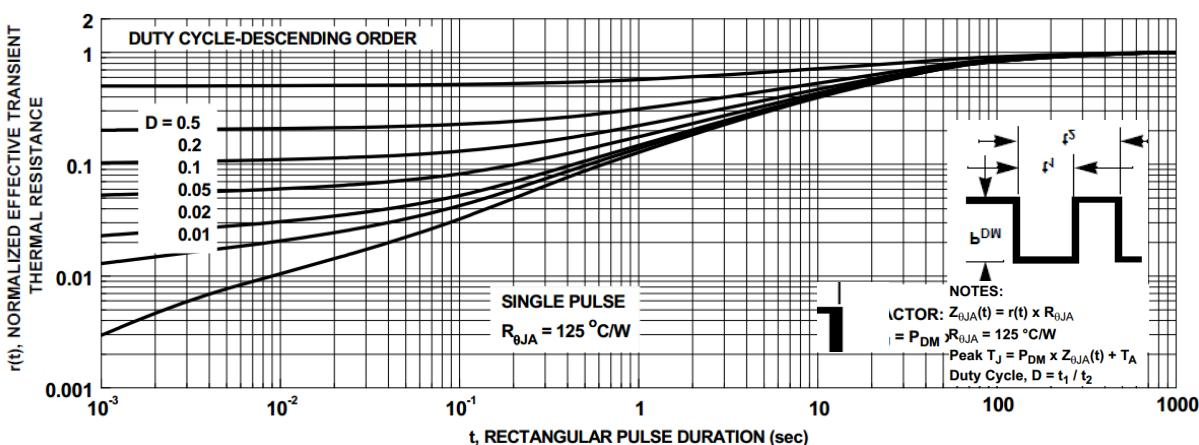

Figure 10. Junction-to-Ambient Transient Thermal Response Curve
The steady-state thermal resistance values are not enough to find a peak junction temperature in terms of pulse driven applications. Figure 10 provides the normalized effective transient thermal resistance, $r(t)$, as a function of the rectangular pulse duration at a given duty cycle. As the duty cycle and the pulse duration increase, the transient thermal impedance gets close to 1. This means the transient thermal resistance approaches steady-state resistance. It calculate the transient thermal impedance, $Z_{0JA}(t)$, which is used to estimate the junction temperature, T_J , resulting from a transient power dissipation by using Equations (6) and (7):
For example, when FDMS86101A is conducting during 1 ms out of the 2 ms period which is the 0.5 duty cycle, the $r(t)$ from Figure 10 is 0.5. The junction-to-ambient thermal resistance, $R_{\theta JA}$ on the minimum pad of 2 oz copper is 125°C/W from Table 6. Then the $Z_{0JA}(t)$ of FDMS86101A mounted on the minimum pad of 2 oz copper is 62.5°C/W by using Equation (6).